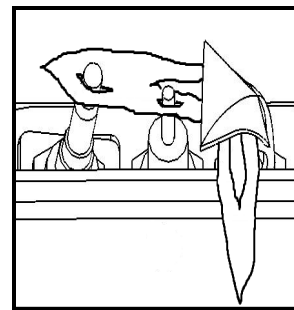

FIG. 2
4. Wait five (5) minutes to clear out any gas. Then smell for gas including near the floor. If you smell gas, STOP! Follow "B" in the safety information above. If you don't smell gas, proceed to step 5.
6. Continuing beeps confirm the ignition is in process. Once lighting the pilot flame should appear as shown in Fig.2. Once the pilot is confirmed, the main burner ignites on high.
For your safety, this appliance is fitted with a flame supervision device which will shut-off the gas supply if, for any reason, the pilot flame goes out. This device incorporates a fixed probe, which senses the heat from the pilot flame. If the probe is cool, the device will prevent any gas flow unless manually lighting the pilot. See full lighting instructions. Periodically check the pilot and burner flames comparing them to the figure 2 on page 23, and the image on the bottom of this page.